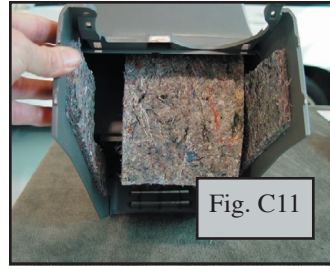

Fig. C11
- i. Remove sound dampening pad. (Fig. C11)